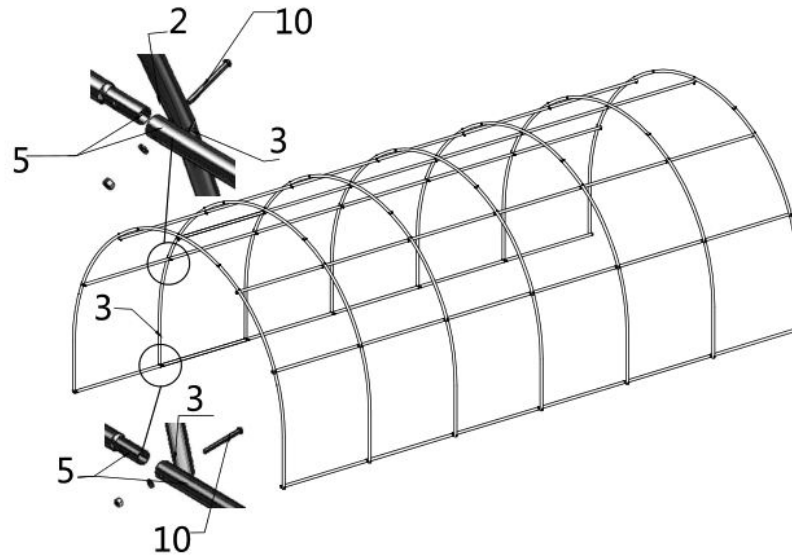

Figure 6
- Repeat the previous step to erect the second span truss, and then connect the other end Roof purlin (#5) with the truss with bolts (#10), and complete the installation of the second truss to the sixth truss in turn. (refer to Figure 6)